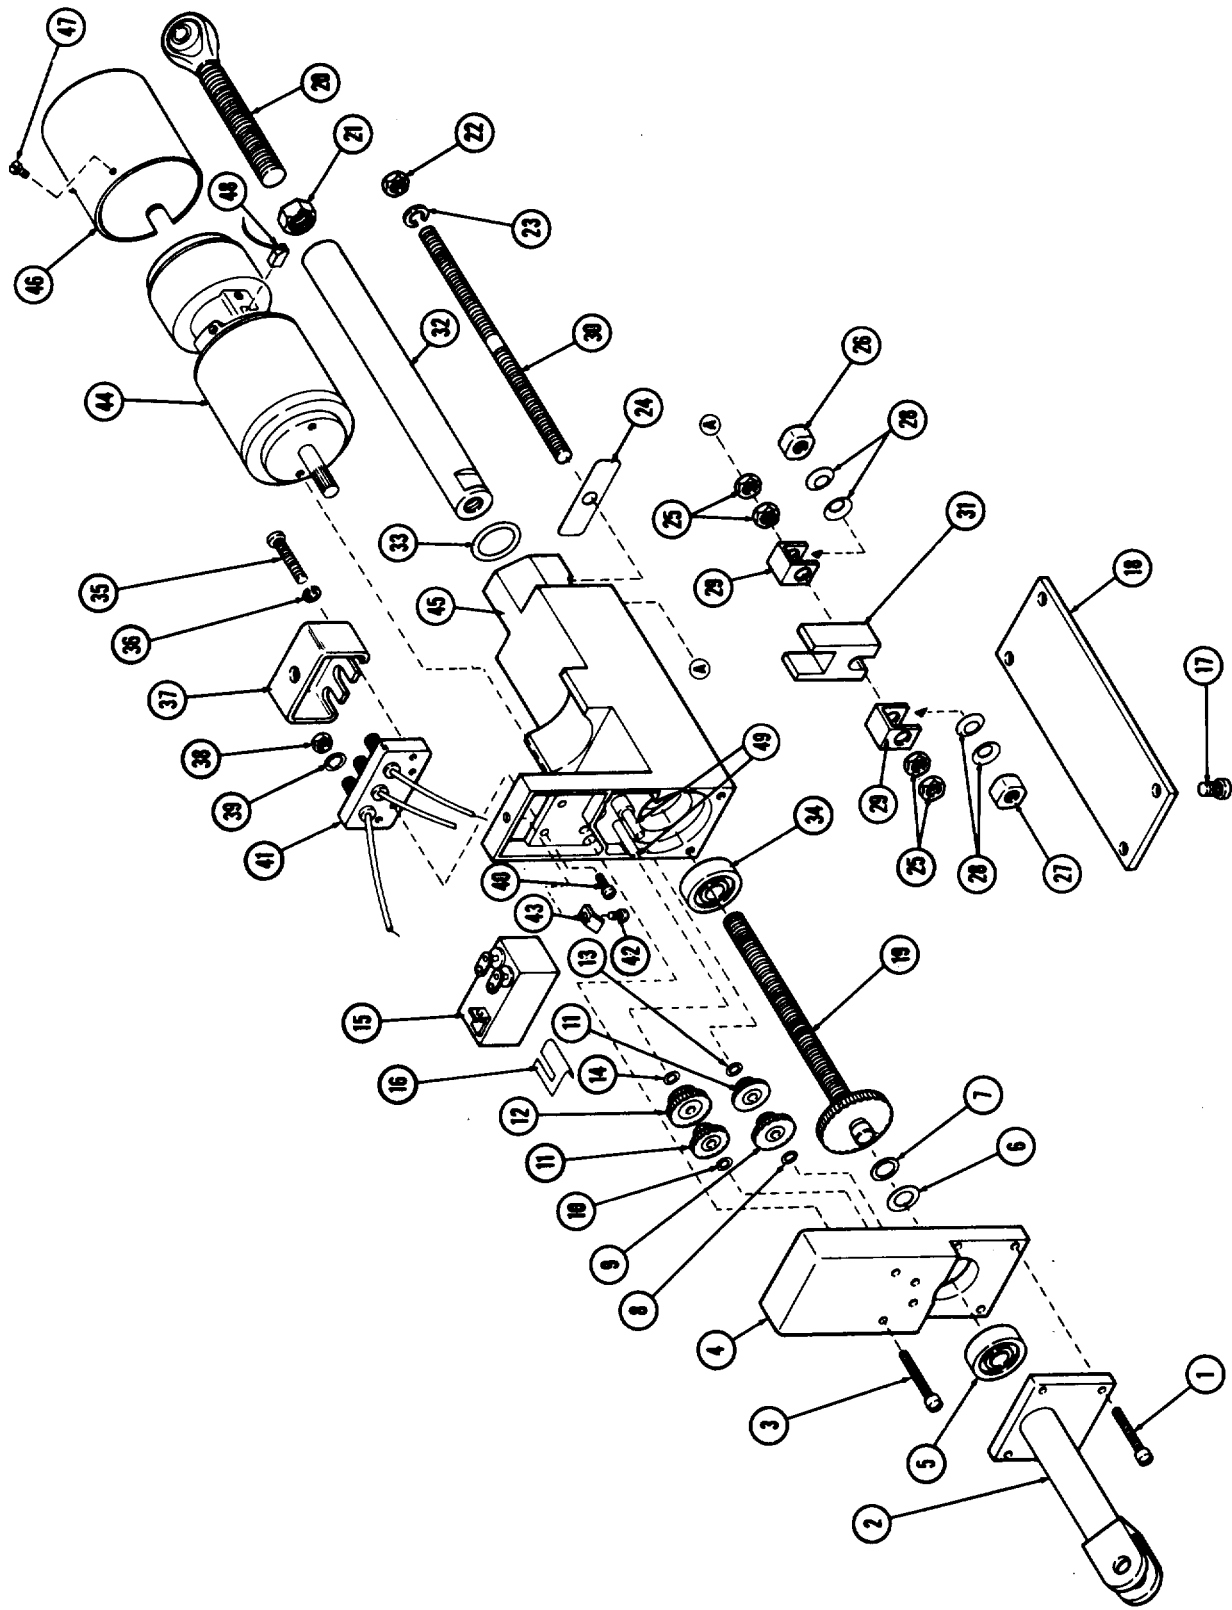

Figure 3. Linear Actuator—Exploded View.
Disassemble the linear actuator, figure 3, as follows:
a. Clean nonelectrical parts with an approved cleaning solvent, (item 1, table 3) and dry with compressed air.
**Do not clean gear assemblies (9, 11 or 12, figure 3) containing oilite bearings in cleaning solvent. Do not allow races of ball bearings to spin**
u. Connect drive motor (44, figure 3) to a 26-volt dc supply containing a single-pole double-throw center OFF switch and check for proper operation an rotation as follows:
(1) Viewing motor from shaft end, the shaft shall rotate clockwise with the plus side of dc power supply connected to red lead and minus connected to the motor case.
(2) Motor shall reach no-load speed of 12,000 rpm within 20 seconds after start in either direction.
(3) Running current at no-load must not exceed 0.3 ampere in either direction of rotation.
(4) Minimum stall torque shall not exceed 0.075 in. lbs.
(5) Check for brake pull-in at 15.5 volts.
b. Check filter (15, figure 3) for breakdown at 200 volts dc for one minute with both terminals tied together. Allow capacitors to charge before reading and discharge after test. Connect 150 vdc for two minutes, terminal to case (terminals tied together); minimum readings should be 20 megohms. Check resistance through each section. Resistance of each section should be 0.6 ohms maximum.
a. Pack half bearings (5 and 34, figure 3) 30 to 50 percent full of grease, (item 3, table 3).
b. Lubricate bearings, studs, and gear assemblies forming the gear train with a grease mixture (item 4, table 3). The total amount of lubricant shall not exceed one level teaspoon.
a. Install new motor brushes (48, figure 3) and solder leads to motor (44).
b. Replace cover (46) and two screws (47) on motor (44).
c. Assemble motor (44) to housing assembly (45). Put three beads of sealant (item 5, table 3) the length of curved surface of the casting. Assemble motor to housing so that motor leads extend through lead hole in casting and threaded holes in boss of motor line-up with clearance holes in casting. Put a temporary screw (3) in mounting hole farthest away from motor leads. When tightening this screw, be careful not to pinch motor leads. Add a bead of sealant (item 5, table 3) on the outside mating edges of motor and casting. Smooth off excess sealant. When finished, no daylight must be seen between motor and casting.
d. Mount terminal block assembly (41) to housing (45). Apply a thin, even film of sealer to mating surface on housing (45). Position terminal block while threading the solid tinned wire from terminal block through the end hole of terminal on housing. Install screws (40).
e. Prepare to solder motor and terminal block leads to filter (15). The identification side of the filter is referenced as the top. Motor leads are soldered to motor identified side of filter. Motor leads are routed along the top side of terminals and